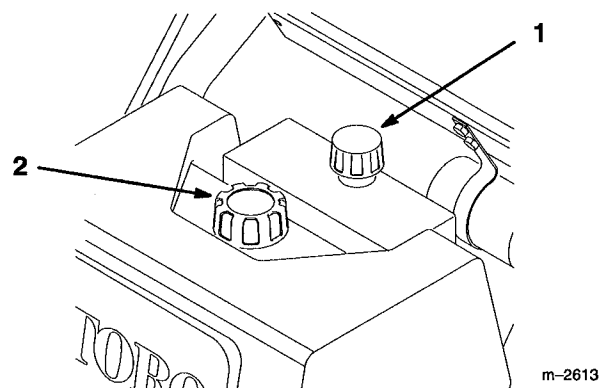

Figure 27
2. Clean area around filler neck and cap/dipstick of hydraulic tank (Fig. 27).